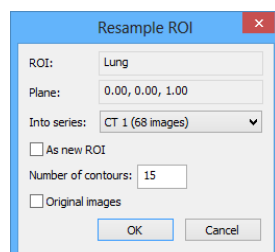

Figure 249 – Resample ROI dialog
2. Select the ROI to be resampled in the ROI list and click the **Resample...** button. The **Resample...** dialog is then displayed (see Figure 249).